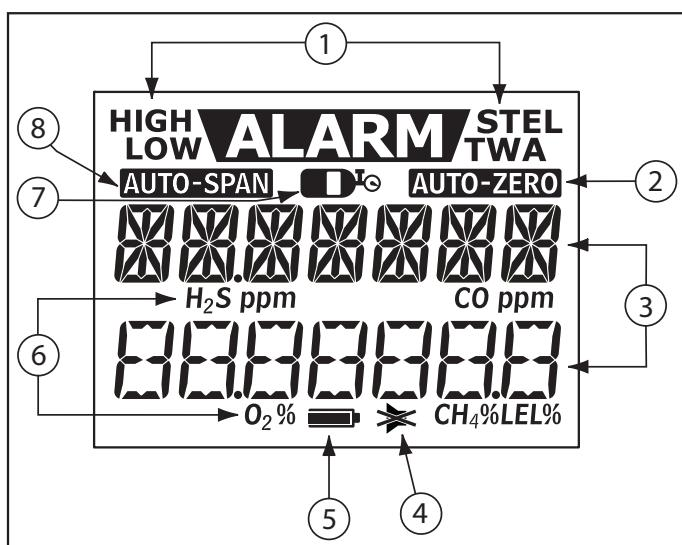

Figure 2. Display Elements
- Figure 2, and Table 4, describes the detector's display elements.